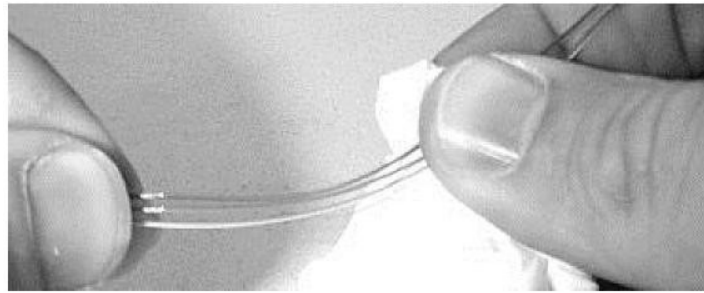

Figure 32 - Clean the optical fibres
5.21 Clean the exposed fibres using a lint free wipe soaked with isopropyl alcohol (Figure 32). Fasten the tube(s) to their corresponding splice organizing tray.